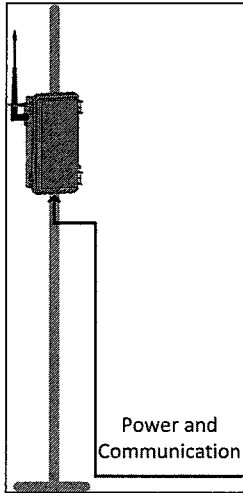

Figure 3: RLINK Installed on a Pole (Recommended)
- Attach the RLINK directly to the pole (Figure 3).
**CAUTION** Rotem recommends installing the RLINK as shown in Figure 3. When an RF cable separates the unit and antenna the cable attenuates the signal, resulting in a 3 dB loss (half of the signal strength).